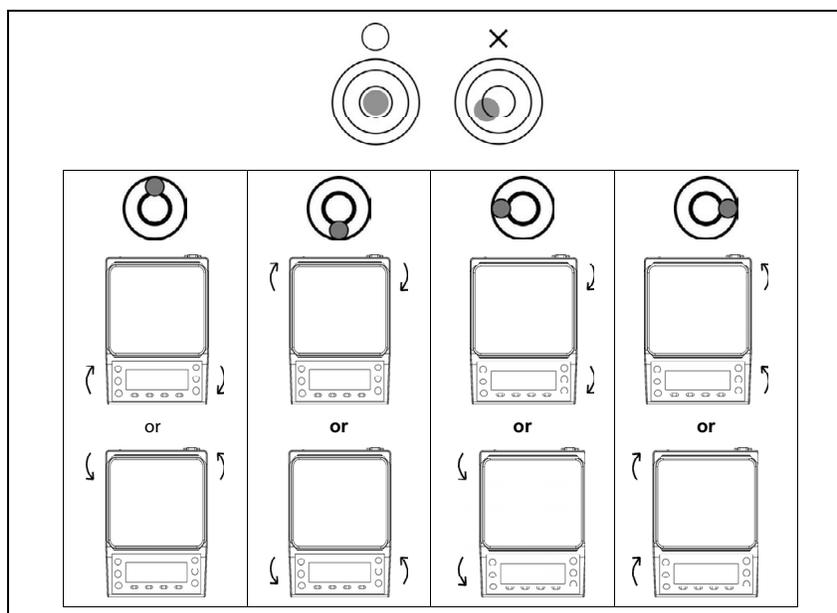

Figure 2-7. Level the Balance
2. Adjust balance feet until the bubble level is centered in the center circle. See Figure 2-7 for illustrated directions for adjusting the feet to level the balance by moving the bubble into the center.